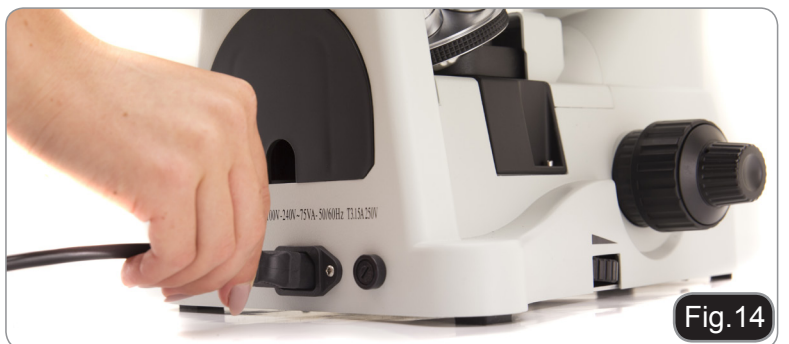

Fig.14
2. Insert the cable into the power socket of the microscope. (Fig.14)